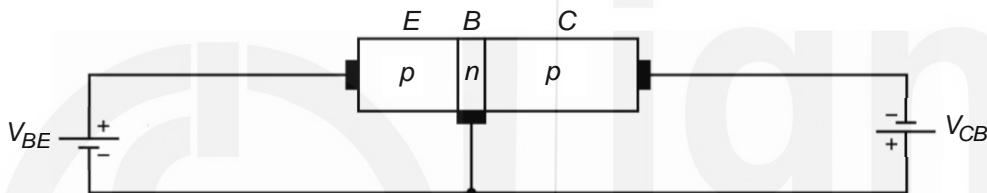

Fig. 3.18: A *p-n-p* transistor when the emitter-base junction is forward biased and collector-base junction is reverse biased.
2. a) Fig. 3.18 shows the labelled diagram of the biasing of the *p-n-p* transistor.